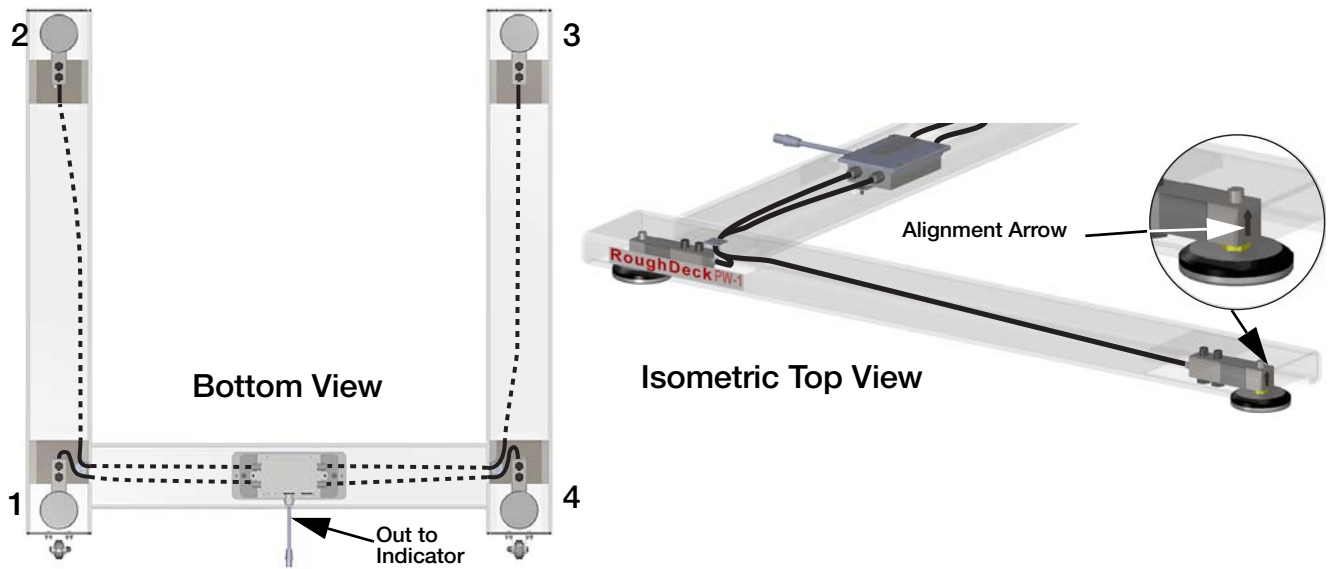

Figure 4-2. Load Cell Wiring Diagram
1. Remove the junction box cover and identify the correct load cell terminal corresponding to each corner, labeled CELL 1, CELL 2, CELL 3 and CELL 4. See Figure 4-2 on page 9 for scale deck corner numbering.
2. Thread the cable from the load cell through the conduit tubing in the frame to the junction box according to the wiring diagram in Figure 4-2.
Note Figure 4-2 displays both the scale and the junction box as viewed from the bottom. To verify correct load cell/junction box terminal matching, see the numbers on the terminals inside the junction box and the corner numbering diagram in Figure 4-2.
The four load cells are each wired to their respective terminal in the junction box in accordance with the corner numbering system shown in Figure 4-2, and the coloring code in the load cell specifications.